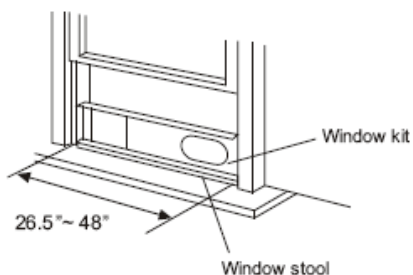

Fig.11
2. Attach the window slider kit to the window stool. Adjust the length of the window slider kit according to the width of window, short the adjustable window kit if the width of window is less than 27 inches. Open the window sash and place the window slider kit on the window stool. Fig.11